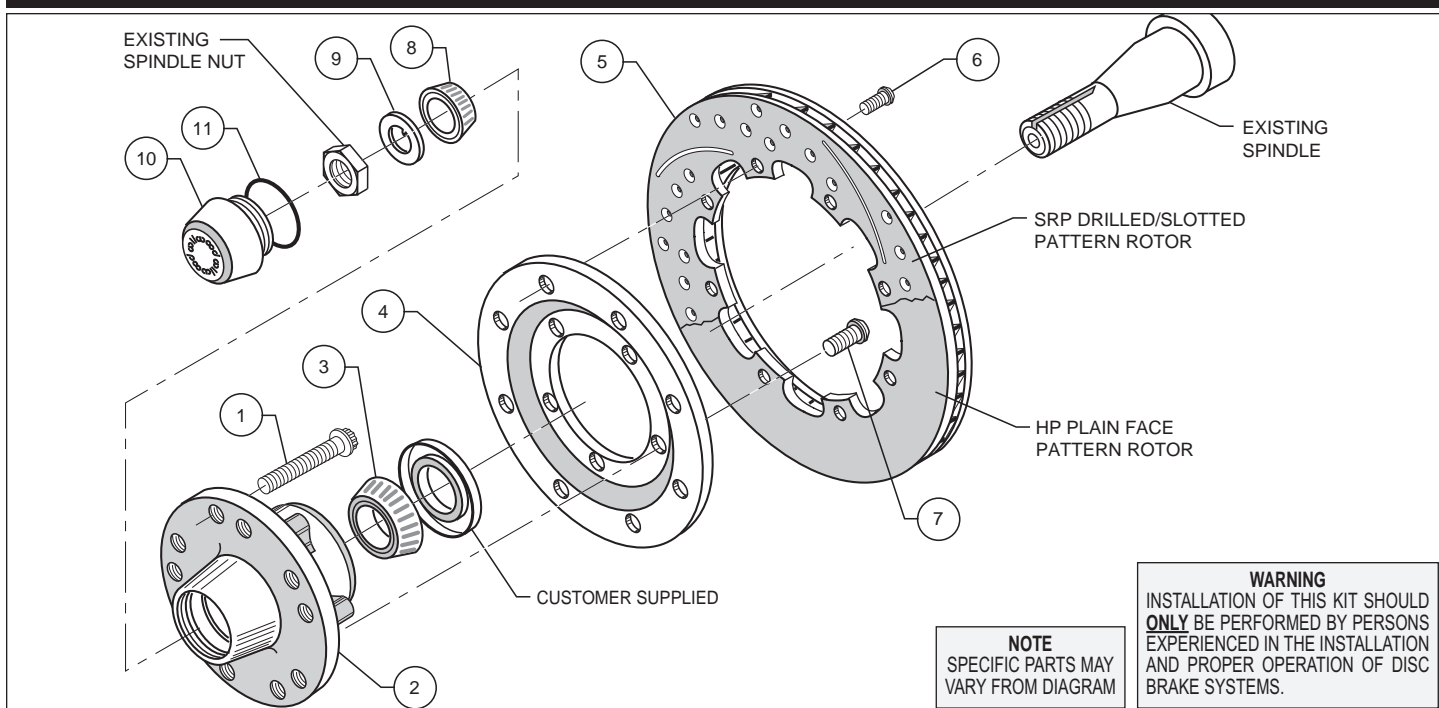

Figure 1. Typical Installation Configuration
- Install wheel studs (1) into the hub (2). Torque to 77 ft-lb. **NOTE:** There are two five lug patterns in the hub (5 x 4.50 and 5 x 4.75). Make sure of the correct hole pattern for the correct wheel application before installing studs into hub.
- Pack the large inner bearing cone (3) with high temperature disc brake bearing grease (available from your local auto parts store) and install into the backside of the hub (2).
- Install the grease seal, customer supplied by pressing into the backside of the hub (2).
- Orient the rotor (5) and the rotor adapter (4) as shown in Figure 1. Attach the rotor to the adapter using bolts (6). Using an alternating sequence, apply red *Loctite*® 271 to the threads, and torque to 25 ft-lb.
- Mount the adapter/rotor assembly (4/5) to the hub (2) using bolts (7), as shown in Figure 1. Using an alternating sequence, apply red *Loctite*® 271 to the threads, and torque to 45 ft-lb.